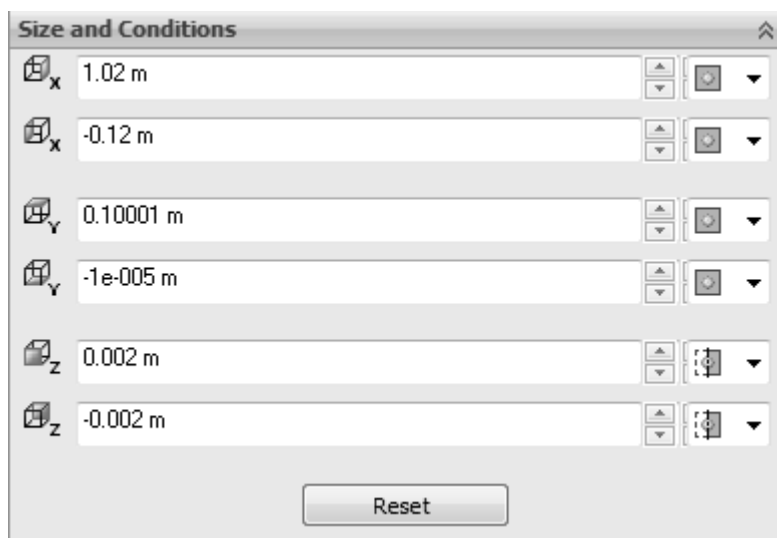
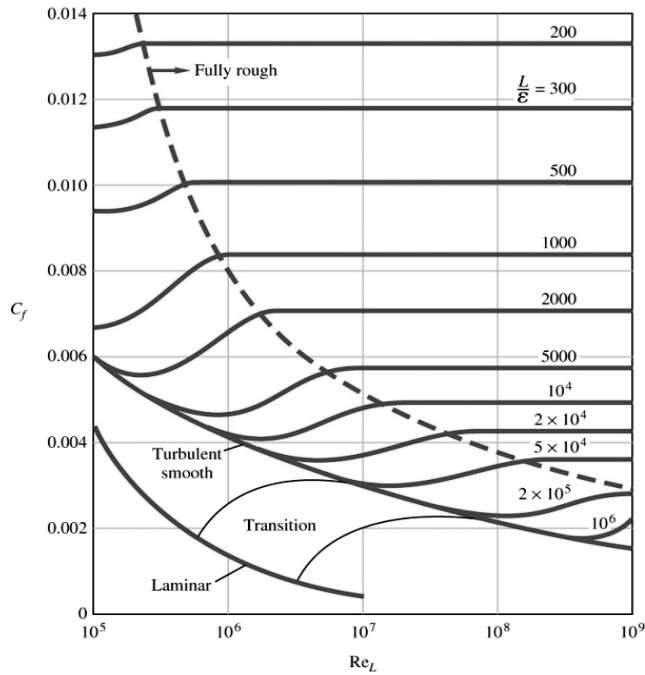

Figure 2.28a) Setting the size of the computational domain
Figure E3 Average friction coefficient for flow over smooth and rough flat plates, White (1999)
30. Select **Flow Simulation>>Computational Domain...** Set the size of the computational domain to the values shown in figure 2.28a). Click on the **OK** button to exit. Select **Flow Simulation>>Initial Mesh...** from the SolidWorks menu and change the **Number of cells per X:** to **400** and the **Number of Cells per Y:** to **200**. Also, in the **Control Intervals** portion of the window, change the **Ratio** for **X1** to **-5** and the **Ratio** for **Y1** to **-100**. This is done to increase the number of cells close to the wall where the velocity gradient is high. Click on the **OK** button to exit. Select **Flow Simulation>>Calculation Control Options...** from the SolidWorks menu. Change the **Maximum travels value** to **5** by first changing to **Manual** from the drop down menu. Travel is a unit characterizing the duration of the calculation. Click on the **OK** button to exit.
The average friction coefficient over the whole plate C_f is a function of the surface roughness for the turbulent boundary layer and also a function of the Reynolds number based on the length of the plate Re_L , see figure E3 in Exercise 8. This friction coefficient can be determined in Flow Simulation by using the final value of the global goal, the X-component of the Shear Force F_f and dividing it by the dynamic pressure times the area A in the X-Z plane of the computational domain related to the flat plate, see figure 2.28a) for the size of the computational domain.
2.8 Use different fluids, surface roughness, free stream velocities and length of the computational domain to compare the average friction coefficient over the entire flat plate with figure E3.